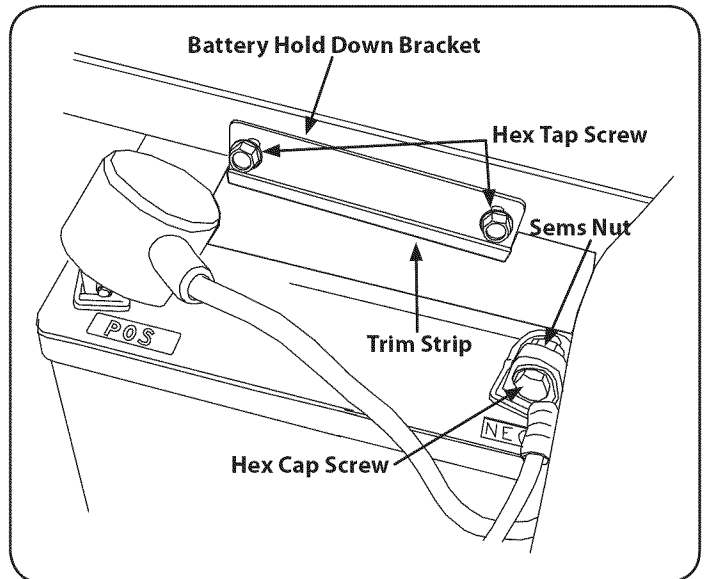

Figure 29
1. Remove the two hex tapping screws from the battery hold-down bracket and remove the bracket. Use care to avoid losing the trim strip from the bottom of the bracket. See Figure 29.